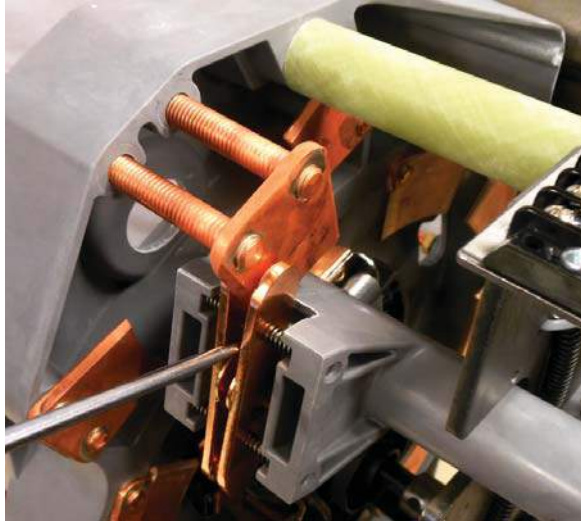

Figure 15. Positioning reversing movable contacts
18. Insert a standard flat screwdriver between the middle and top button contacts on the reversing movable contact assembly and twist to separate. Line up the movable and stationary contacts and rotate the reversing movable contact assembly clockwise over the reversing stationary contact. See Figure 15.